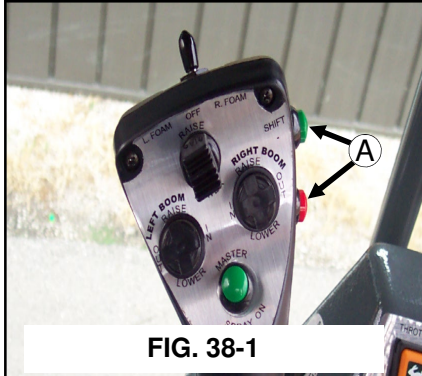

FIG. 38-1
1. Speed ranges are selected by a red (decrease speed range) and green (increase speed range) electronic switch mounted on the hydrostatic lever fig. 38-1, item A). The lower the setting, the higher the torque, but the lower the speed.